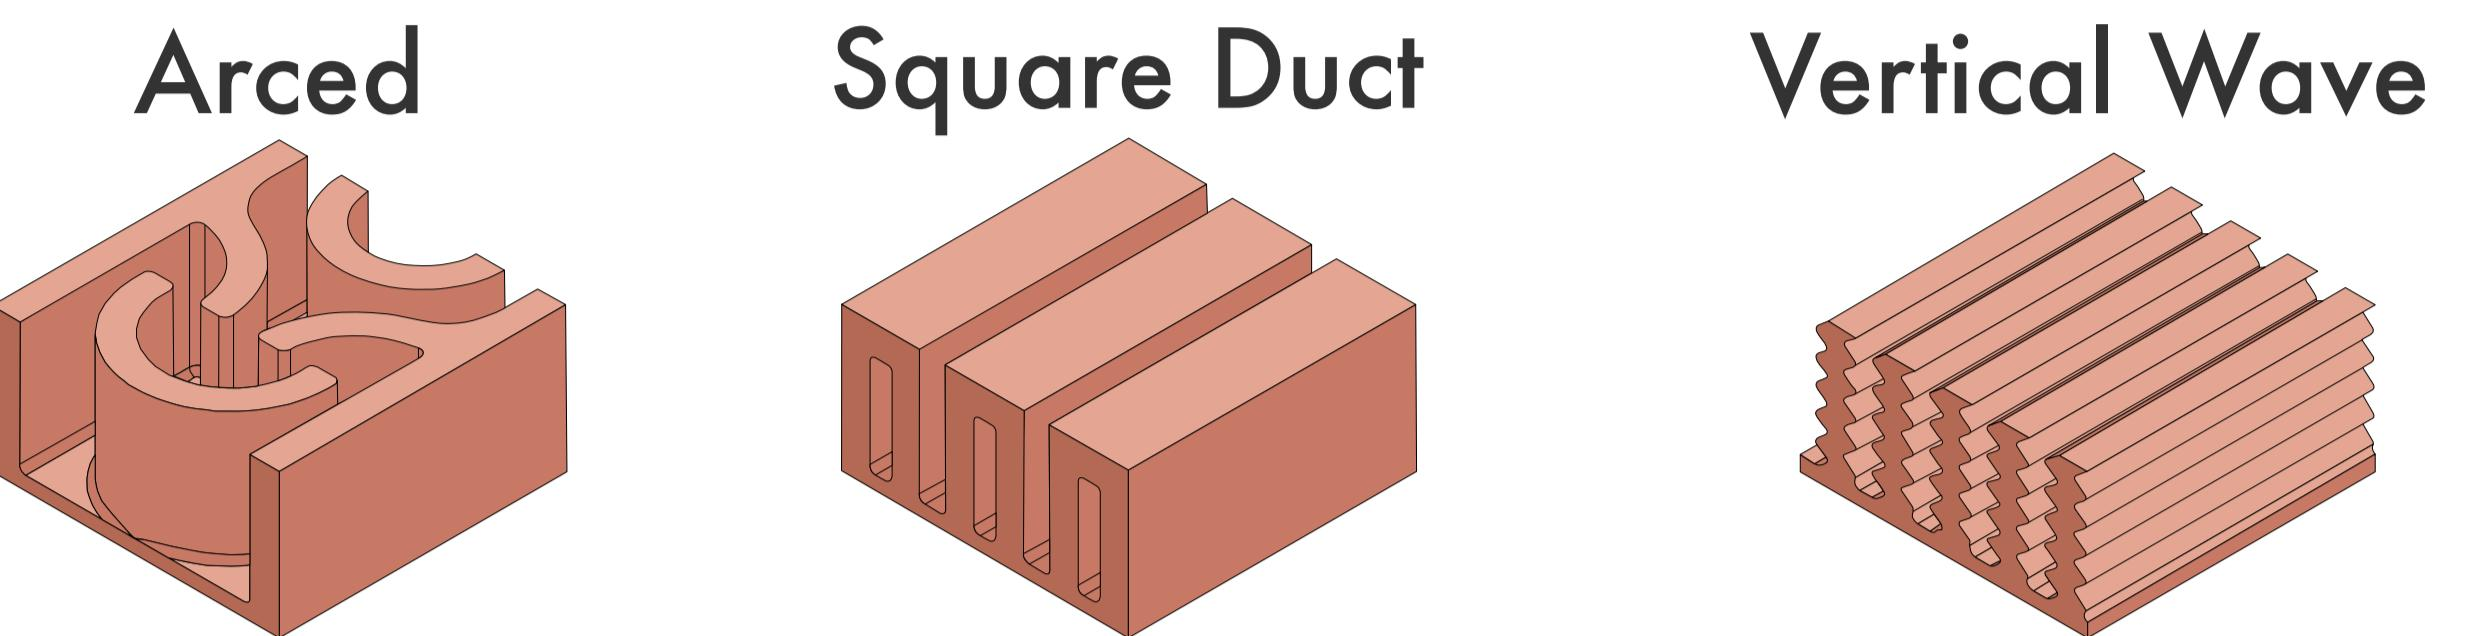
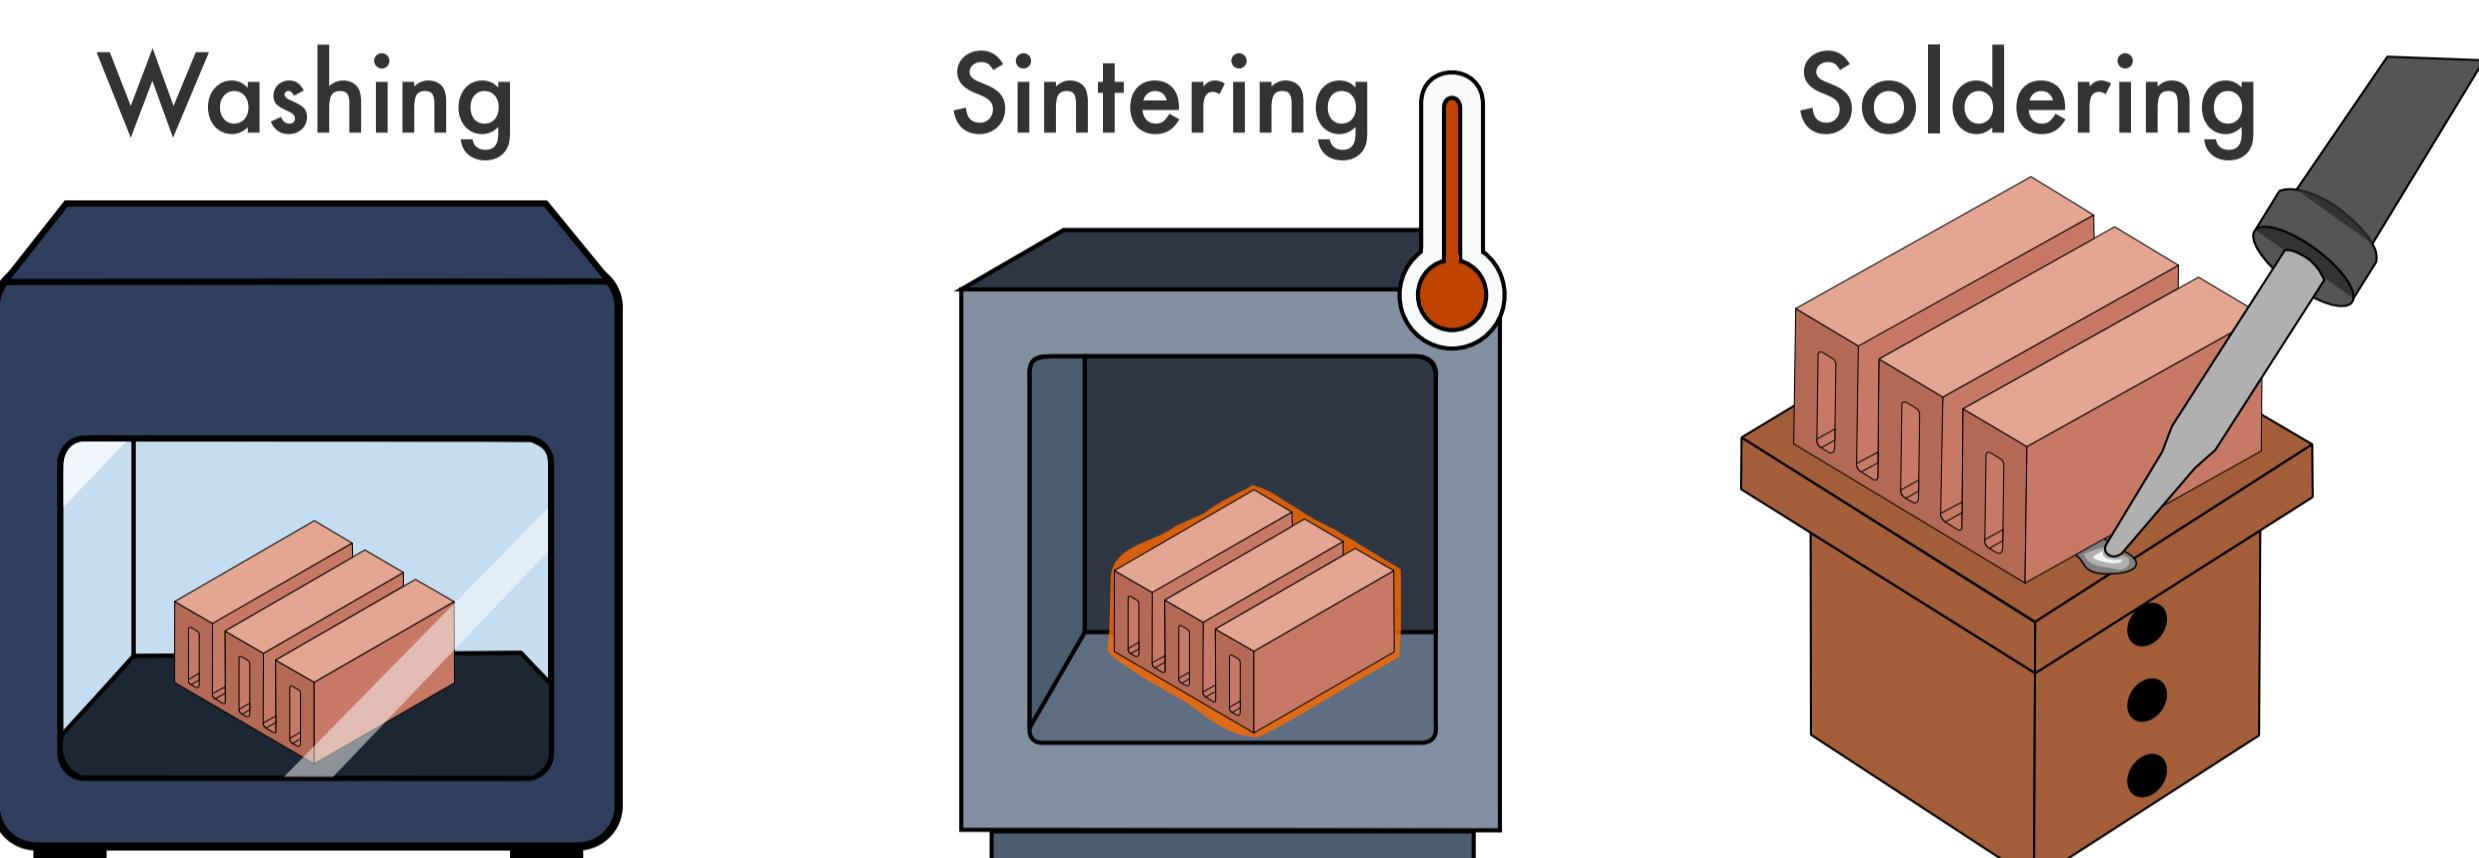

Figure 4. 3D-Printed Surfaces with Three Distinct Geometries.
Figure 5. Post-Processing of 3D-Printed Surfaces.
- Three 3D-printed surfaces (Fig. 4) were fabricated on the Markforged Metal X & post-processed (Fig. 5).